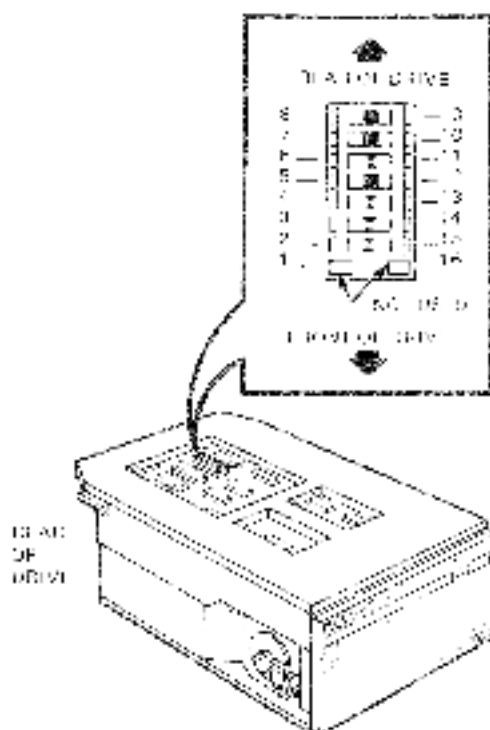

Figure 8-10 DIP Switch Pack Setting
a Place the 14-pin DIP jumper pack in the rear 14 receptacles or the 16 pin socket (figure 8-10).
5. Remove all modules (Figure 8-10). Refer to Section 8.9 for instructions.